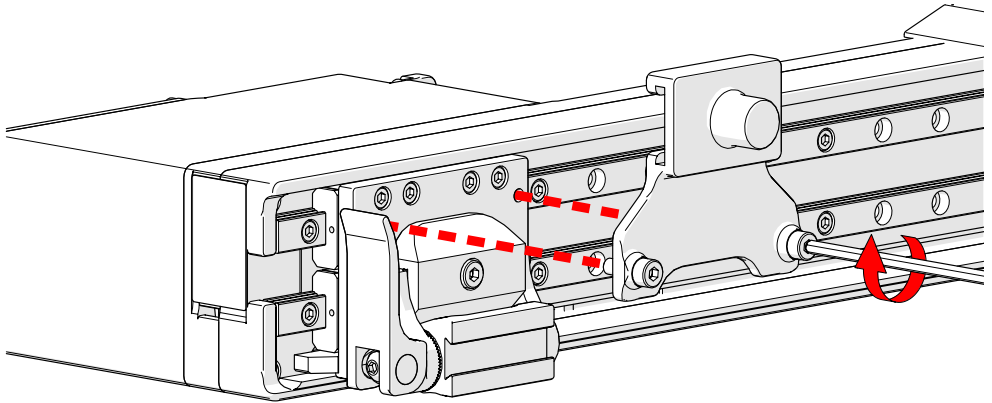

Fig. 156 - Attach the pivot nose to the carriage
- 15.** Attach the carriage bracket to the raster arm carriage (Fig. 156).